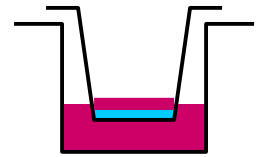

Figure 5
11. Change the media without disturbing the hydrogel. As the gelled Corning PuraMatrix is difficult to see, this is best accomplished by removing approximately 2/3 of the media above the hydrogel with a P200 pipetter and keeping the tip above the bottom of the insert (**Figure 5**). DO NOT USE A VACUUM to aspirate media from above the hydrogel as it will disturb the Corning PuraMatrix scaffold and cells.